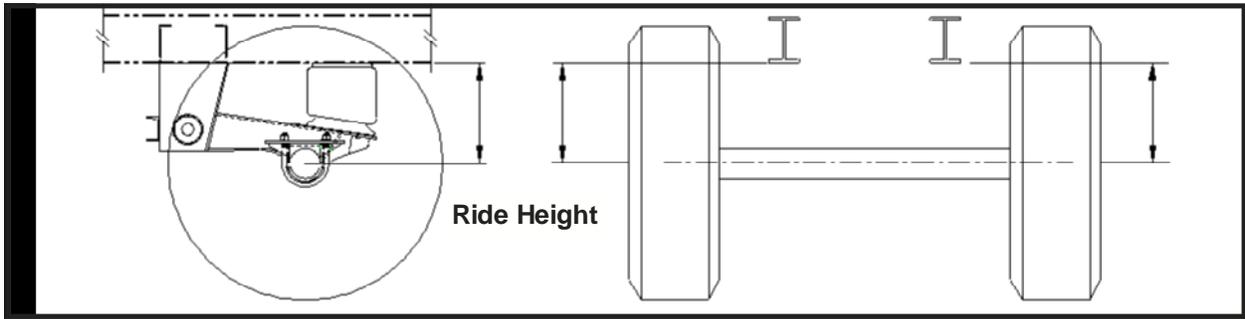

Figure 20
2. The suspension must be at the correct ride height to align properly. This can be done by adjust landing gear or using jacks to support the trailer. If trailer is upside down to mount suspension, the axles may be blocked to the proper ride height. Trailer and axles must be level. Refer to **Figure 20** and make sure ride height is the same on **both** sides of trailer frame.
2. The suspension must be at the correct ride height to align properly. This can be done by adjust landing gear or using jacks to support the trailer. If trailer is upside down to mount suspension, the axles may be blocked to the proper ride height. Trailer and axles must be level. Refer to **Figure 20** and make sure ride height is true on **both** sides of trailer frame.